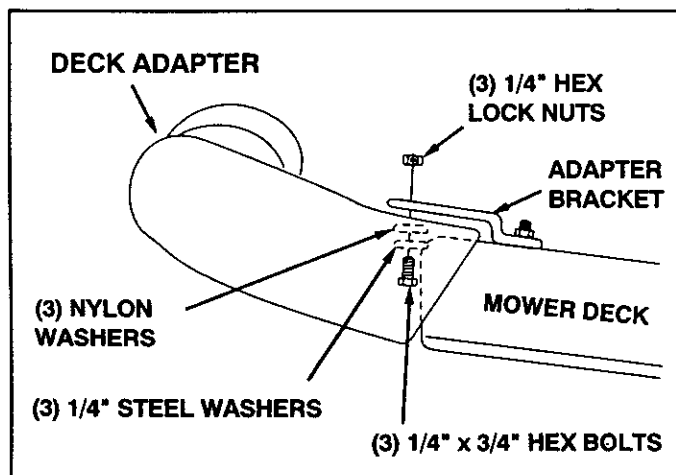

FIGURE 30
- With deck adapter positioned correctly over the discharge opening, use the adapter bracket as a template and drill three 9/32" diameter holes in the top of the deck adapter. See figure 30.
- Bolt deck adapter to bracket using three 1/4" x 3/4" bolts, nylon washers, 1/4" flat washers and 1/4" lock nuts. Nylon washers should be against the inside of the deck adapter. See figure 30.